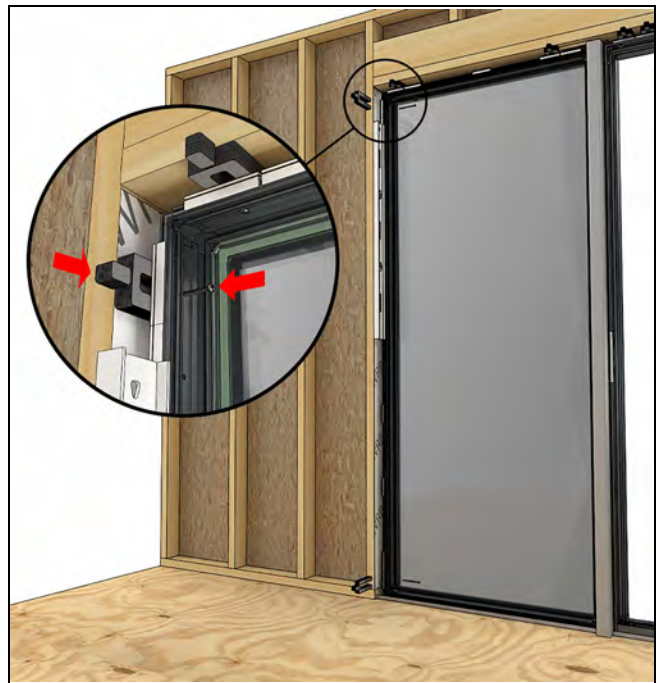

Figure 238
20. Square and plumb the second frame in the opening and then shim and fasten the jamb. See Figure 238.